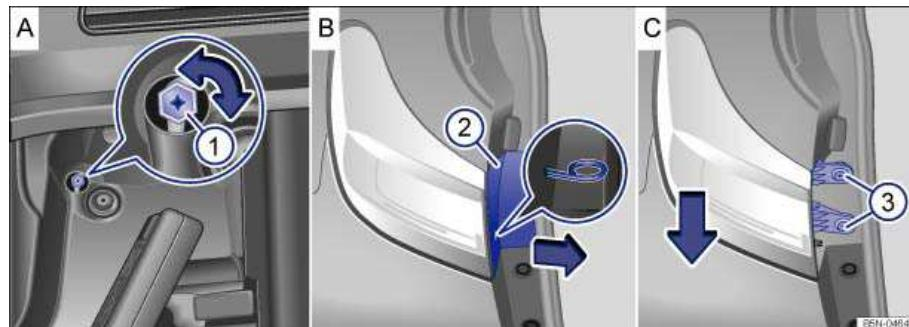

Fig. 209 In the side of the luggage compartment: Releasing the tail light, removing the trim panel and removing the screws.
⇒ **fig. 209 (2)** **B**. Remove the trim panel in the direction of the arrow using the wire bracket.
14. Turn the locking mechanism ⇒ fig. 209 \(1\) A 90° clockwise until it stops.
18. Insert the trim panel ⇒ fig. 209 \(2\) B into its original position, first at the bottom and then at the top.